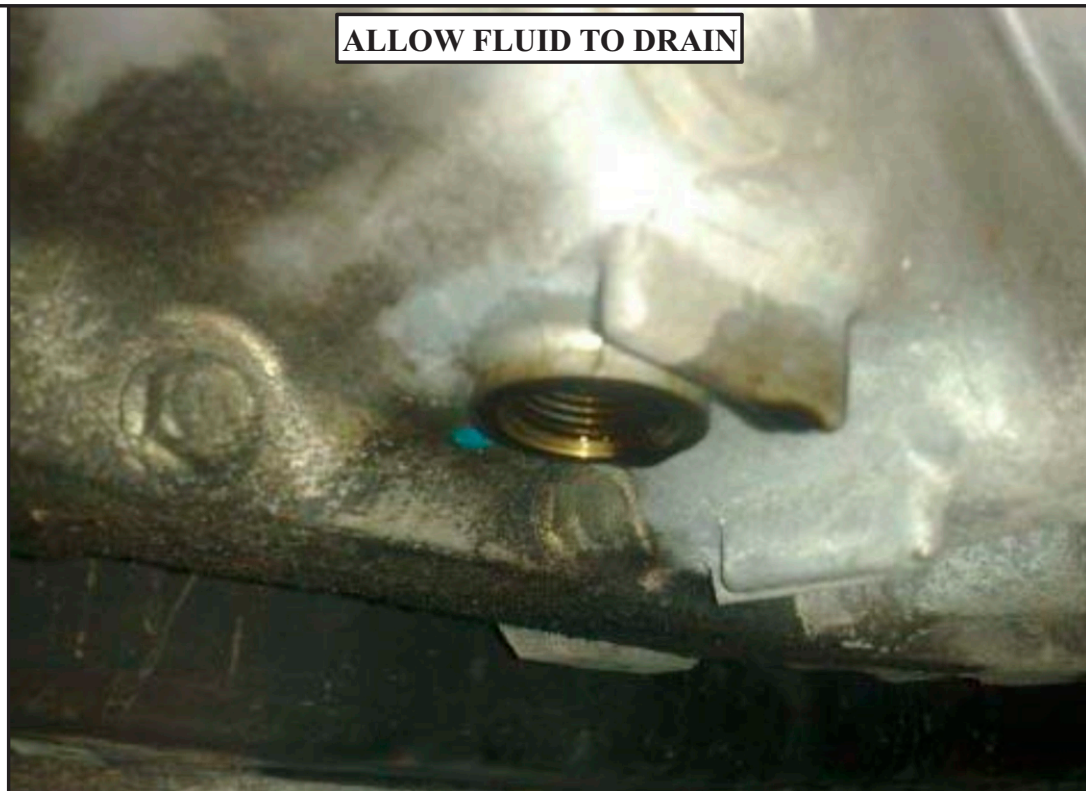

Figure 6
- 6 - Allow the rest of the fluid to drain as seen in figure 6.